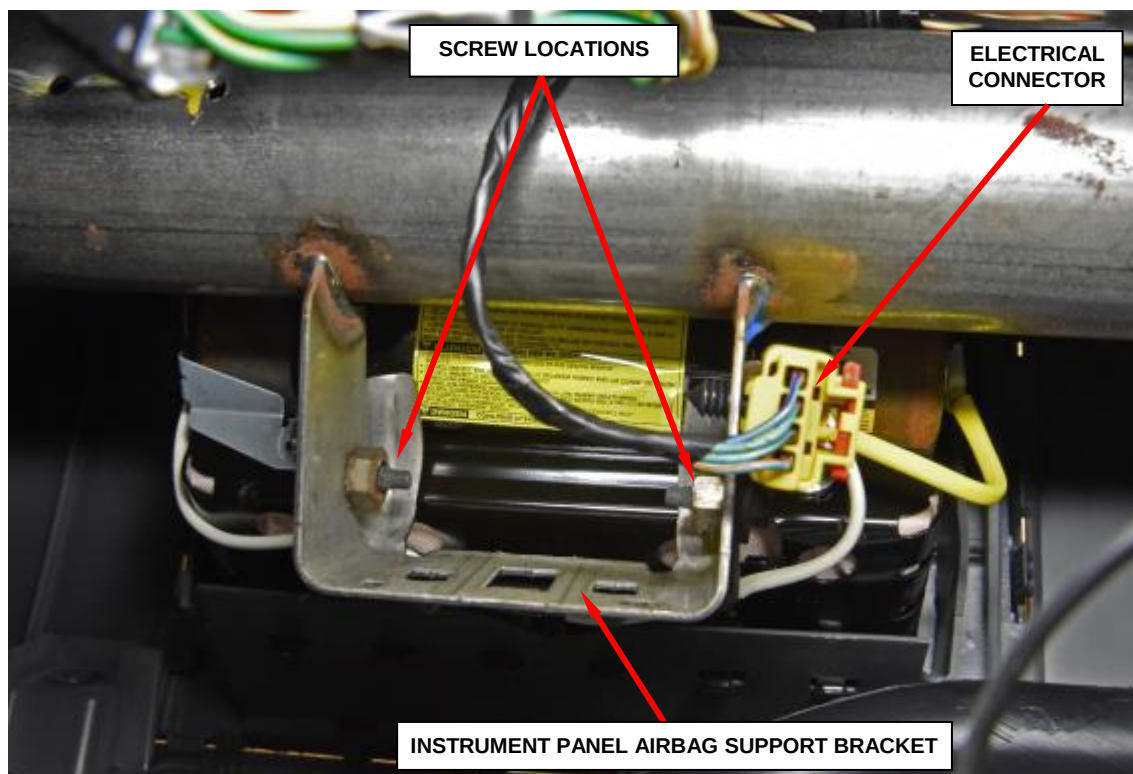

Figure 32 – Airbag Module (View through glove box opening)
8. Reach up into the instrument panel between the upper glove box opening reinforcement and the cross car beam to access and disconnect the instrument panel wire electrical connector from the airbag inflator pigtail wire connector on the right side of the instrument panel airbag support bracket (Figure 32). To disconnect the connector:
9. Remove and save the two screws that secure the passenger airbag lower bracket to the instrument panel airbag support bracket (Figure 32).
10. Disengage the airbag inflator pigtail wire connector from the instrument panel airbag support bracket (Figure 32).